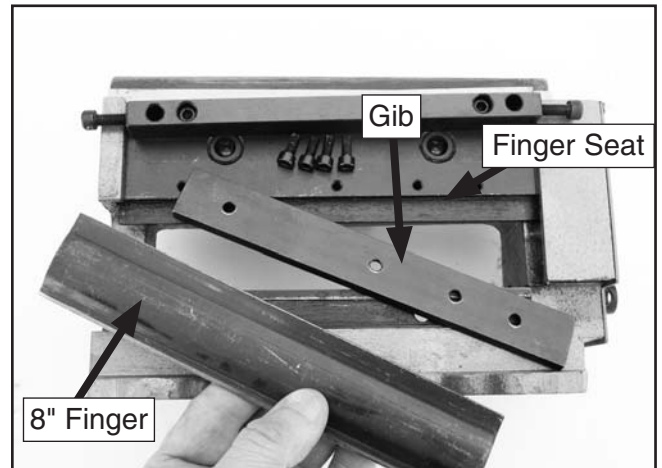

Figure 9. Finger and gib removal.
4. Clean all the fingers, the finger gib, and finger seat in the casting with mineral spirits (**Figure 9**).